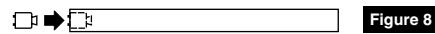

Figure 8
3. Place tenon removed from active case into end of crossbar so it is just flush with end of bar. (Figure 8)